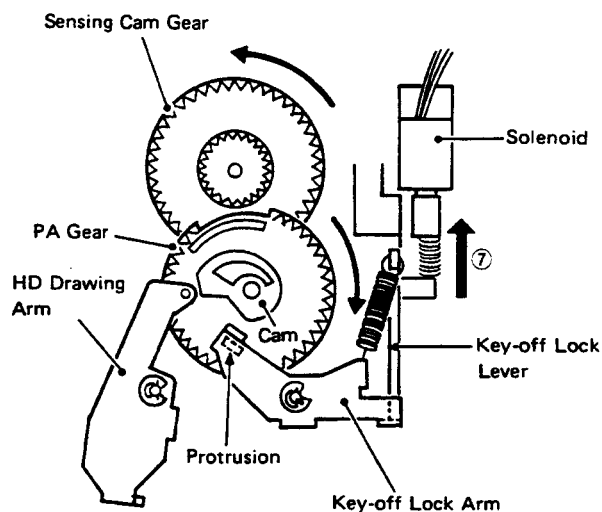

Fig. 14 Stopped state after turning through about 1 rotation (with MS)
- (10) With Music Search (MS) (Fig. 14)